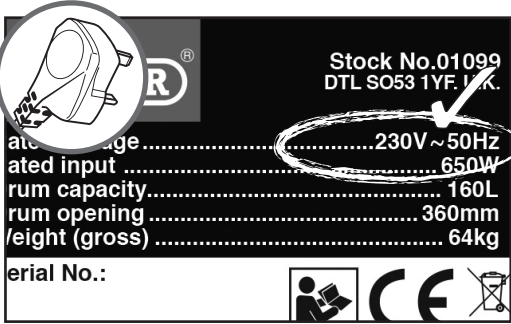

FIG.15 (Example 230V rating label).
9.2 POWER SUPPLY – FIGS. 15 – 16